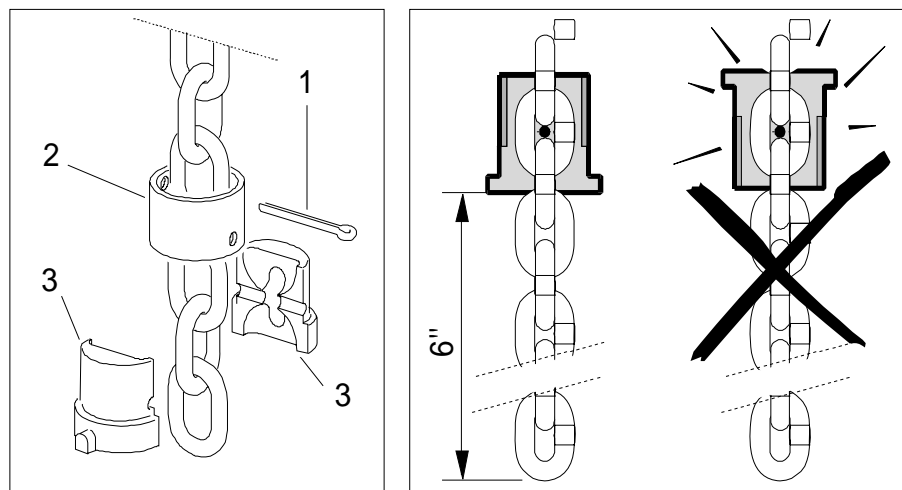

Figure 5.6
4. Attach fall stop at least 6.0 inches [150 mm] from end of chain (chain container side). Attach load block assembly on other end of load chain. Refer to Figure 5.6 for details.
6. Attach fall stop 6.0 inches [150 mm] from end of chain (chain container side). See Figure 5.6 for details.
5.10 Removing fall stop (Figure 5.6)
1. Remove cotter pin (item 1).
2. Slide up the tube (item 2).
3. Remove the two fall stop halves (item 3).
4. Slide tube (item 2) off load chain.
5.11 Installing fall stop (Figure 5.6)